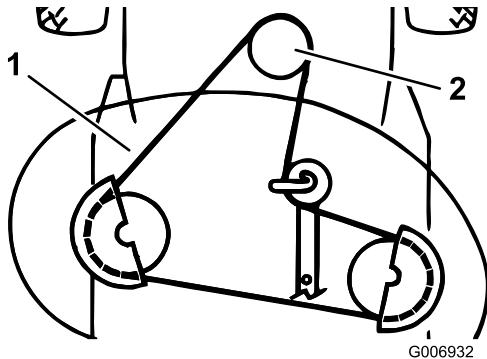

Figure 40
14. Remove the mower belt from the electric clutch pulley (Figure 40).
15. Remove the mower belt from the lower engine pulley (Figure 40).
6. Install the mower belt onto the lower engine pulley (Figure 40).